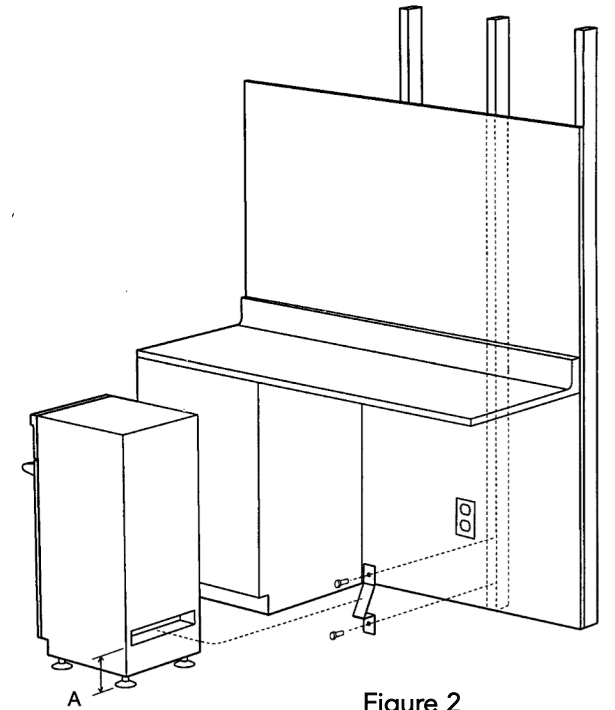

Figure 2
2. Measure from the floor to the bottom of the bracket with the measurement "A" + 1/8" (0.3 cm) and mark the two holes with a marker or pencil. Place the two screws into the bracket and tighten firmly to wall. See Figure 2. Note: Place the screws into a wall stud for better stability.